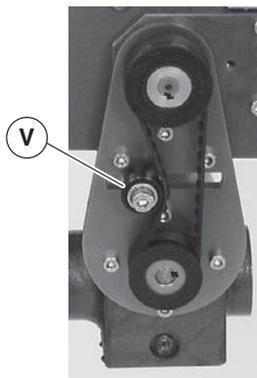

Figure 12
2. Loosen tensioner (Figure 12, item V).